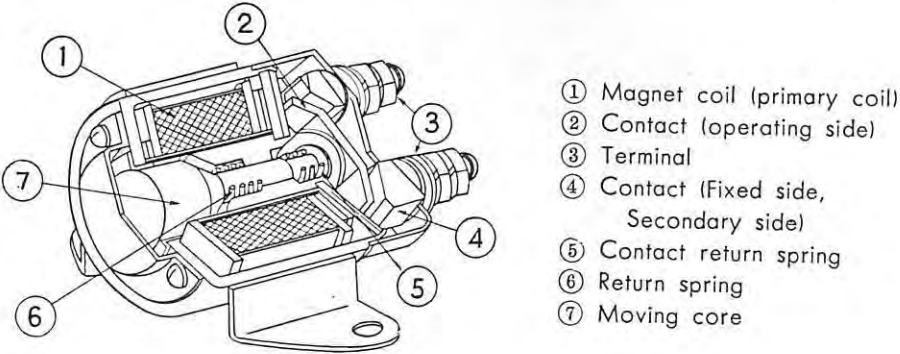

Fig. 11-46. Construction of starter magnetic switch
- b) The contact point at the end of the iron core connects the secondary circuit. (Fig. 11-46).